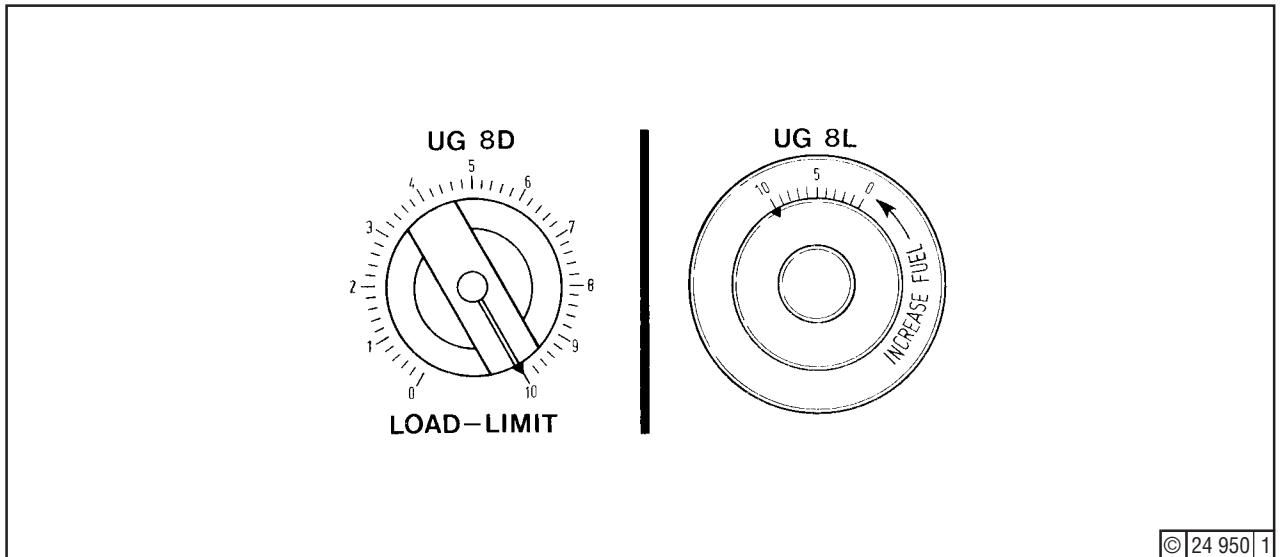
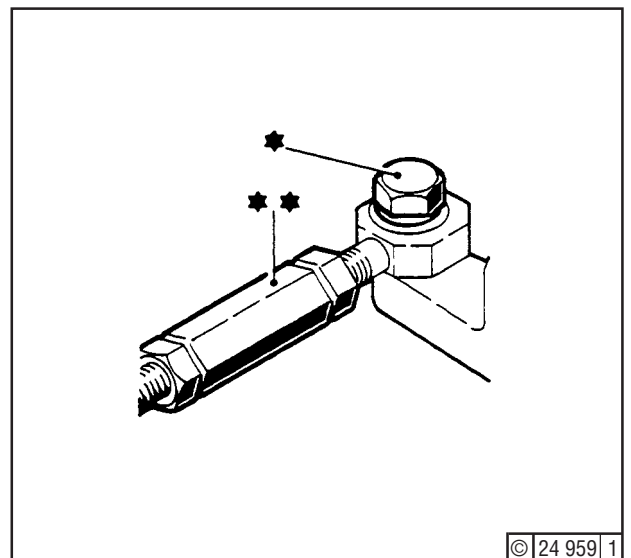

Fig. 15
Fig. 16
10. Turn governor to graduation (10) - Fig. 15 - and secure link C1 (Fig. 16) to point A5 (*). Adjust length of link (**) at point C5 to ensure freedom from internal stressing. Remove tool from all injection pumps (see Fig. 7).